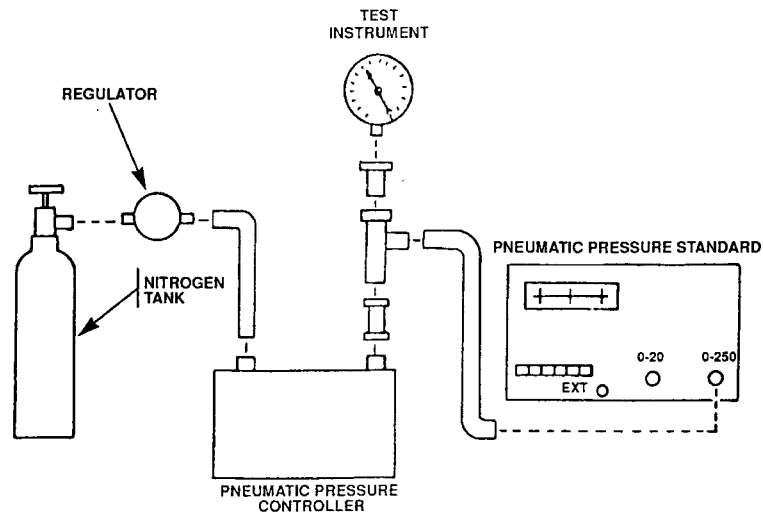

Figure 1. Depth gage - equipment setup.
- a. Connect equipment as shown in figure 1.